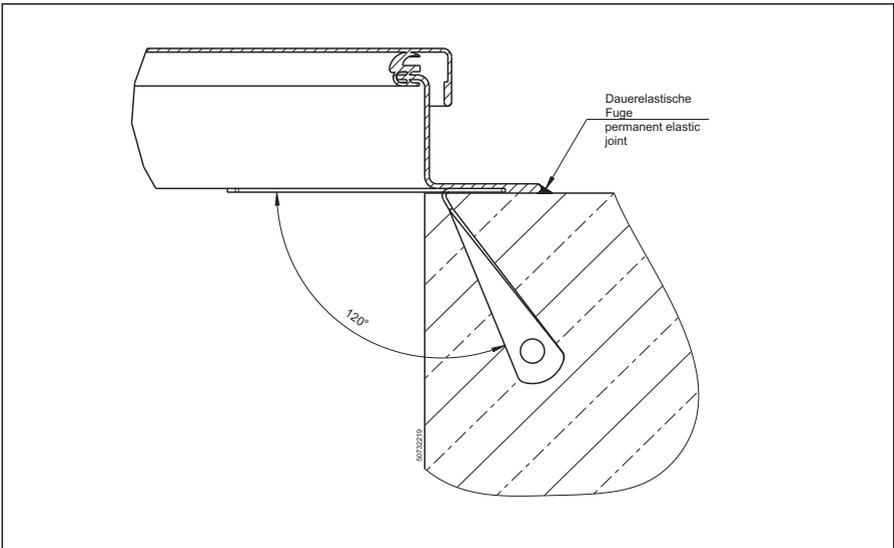
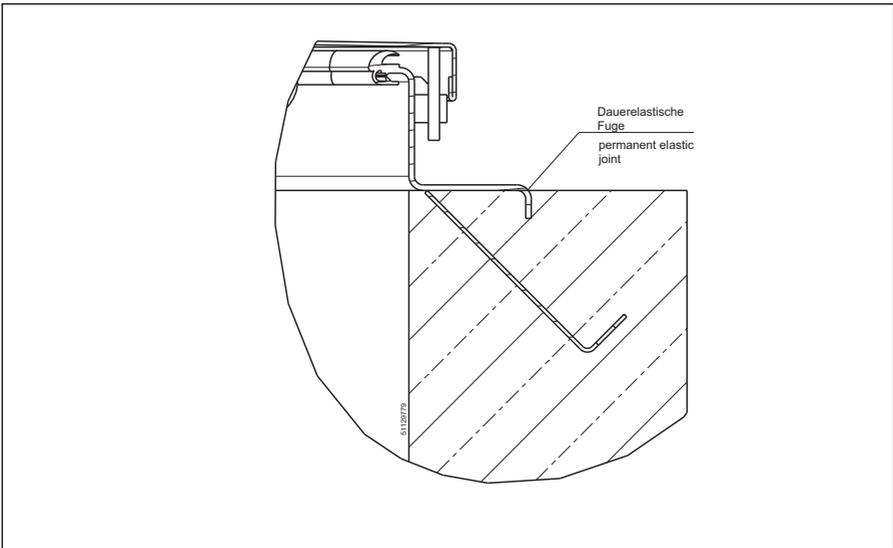

Fig.1 : combi-frame (standard for SD1, SD2)
Fig. 3: Frame for embedding in concrete (SD1, SD2)
- With combi-frame (standard for SD1, SD2) fig 1: Bend down all visible dowel plates. Use a hammer and block of wood to produce rectangular bends.
3. With combi-frame (standard for SD1, SD2)/fig 1: Bend down the wall clamps at the frame underside by approx. 120° prior to installation. Twist the wall clamps. For this purpose it is recommended to insert a screwdriver (or similar) into the borehole (13 mm diameter) and turn by approx. 90°. Apply cement sludge onto all surfaces that get in contact with concrete.
4. With combi-frame/frame for embedding in concrete fig 1 / fig 3: Set the closed manhole cover onto the customer's formwork. Align the frame and set it into concrete.
4. Insert the operating key through the opening of the upper lock part into the locking mechanism until you can feel some resistance. Pay attention that the operating key pilot is positioned inside the a.m. 12 mm borehole (fig. 1).
With (optional) screw lock/RC3: Fit the operating key onto the triangular part and turn it open anticlockwise (fig. 3). Temporarily store the triangular screw and operating key.
With (optional) screw lock/RC3: Turn the temporarily stored brass screw into the lock again and tighten the screw with the wrench (fig. 3).